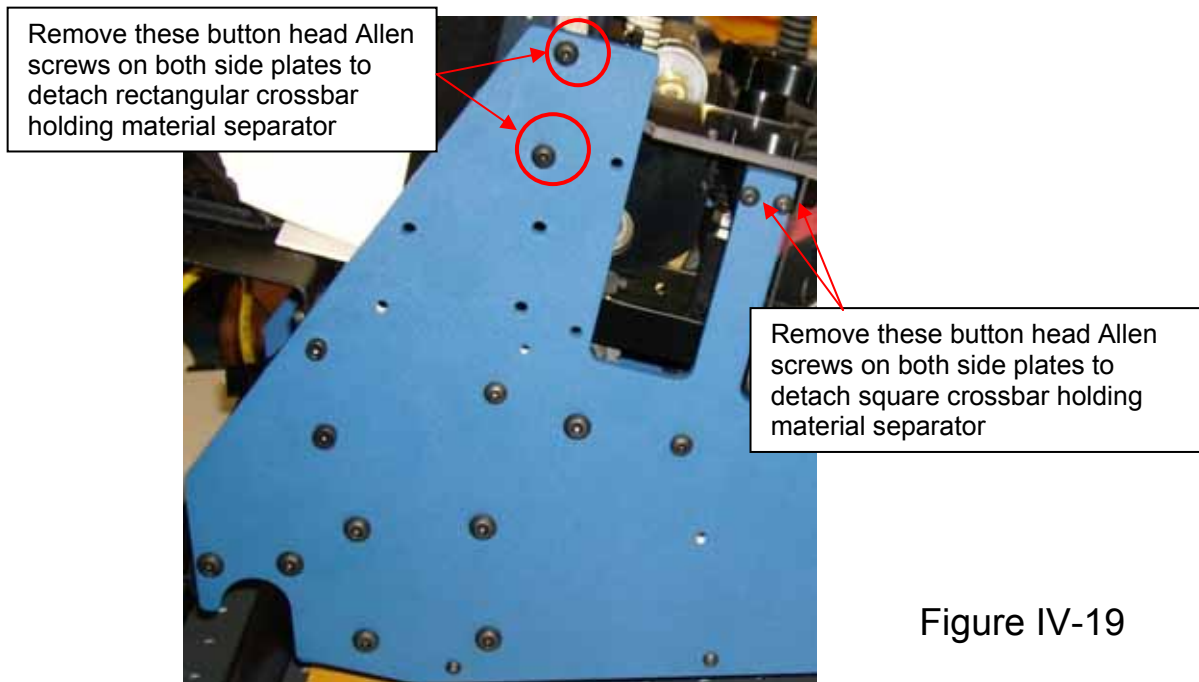

Figure IV-19
- b. Detach rectangular crossbar from side plates by removing button head Allen screws from each end. Carefully lift out the separator ensuring that motor leads clear all obstructions. See figure IV- 19.